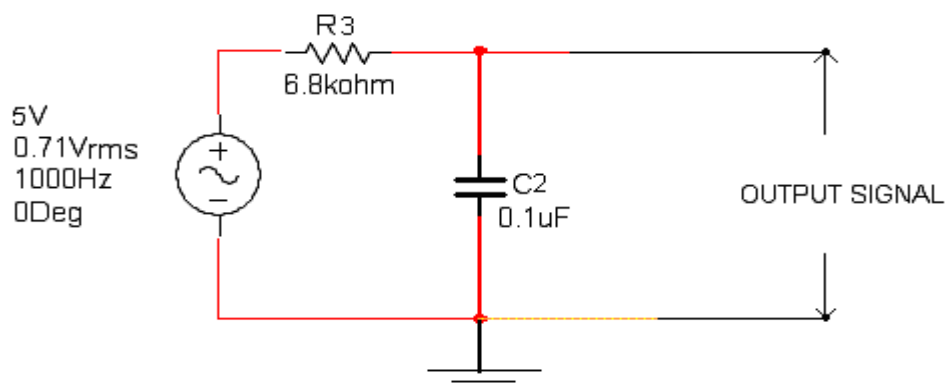

Fig.2. De-emphasis circuit
5. Repeat above steps 2 to 4 for de-emphasis circuit (shown in Fig.2). by applying the sinusoidal signal of 5V as input signal